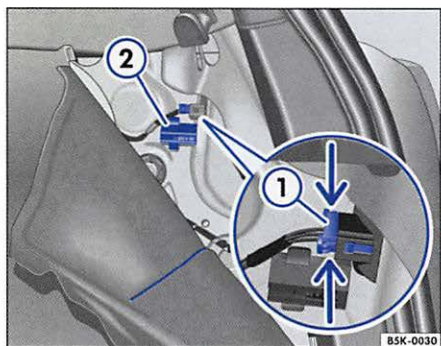

Fig. 197 To the side in the luggage compartment: Removing the taillight. ① Pulling off connector, ② Securing screw.
3. Reach into the opening of the side interior trim of the luggage compartment (slot $\Rightarrow$ fig. 197) and pull the trim forward.
4. Squeeze the release of the connector ① together in the direction of the arrows and pull the connector off.
5. Unscrew the securing screw by hand ②.
12. Hold the taillight with one hand in the installation position and with the other hand, tighten the securing screw $\Rightarrow$ fig. 197 ②.
14. Attach the connector ⇒ page 350, fig. 197 ① to the bulb holder.